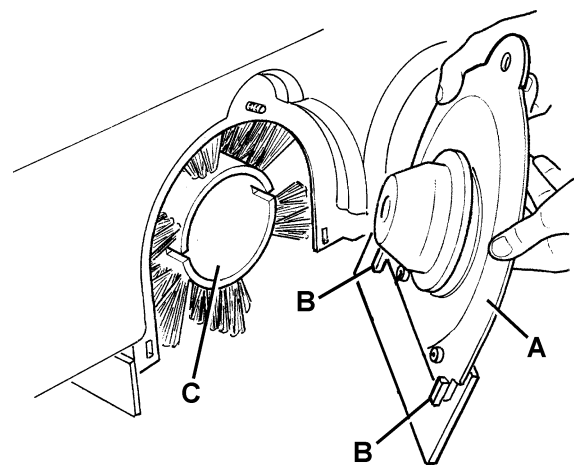

Figure 7
7. Remove the main broom cover (A, Fig. 7) by pressing it downwards to disengage the fasteners (B).
8. Remove the main broom (C, Fig. 7).
12. Install the main broom cover (A, Fig. 7) by engaging the fasteners (B).